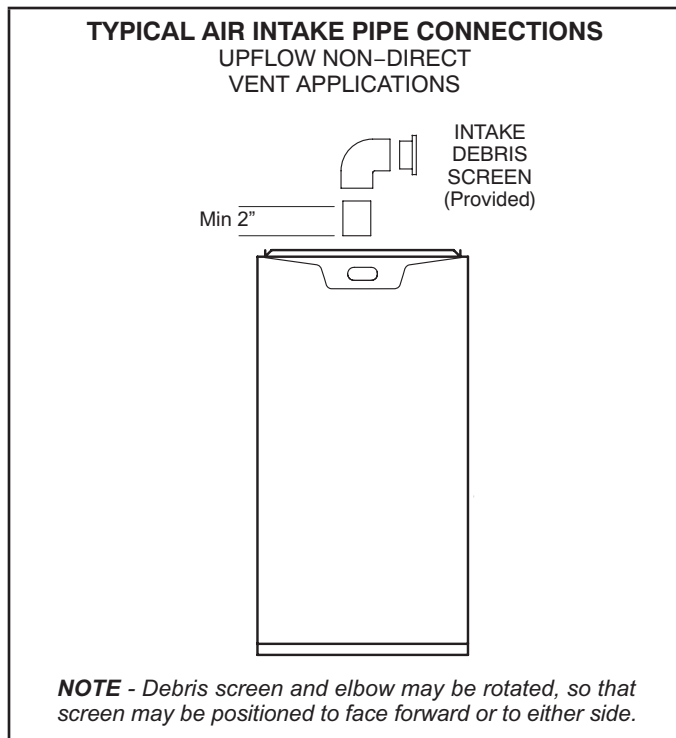
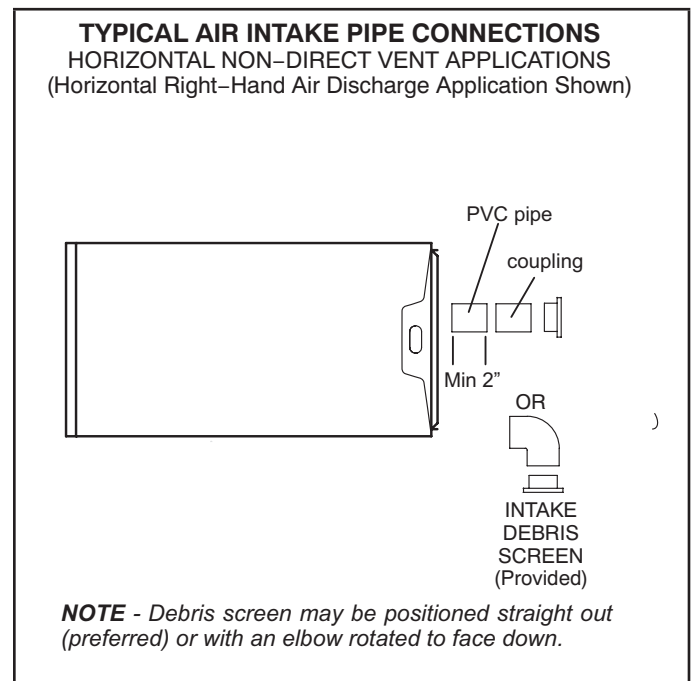

FIGURE 22
FIGURE 23
- 1 - Use field-provided materials and the factory-provided air intake screen to route the intake piping as shown in FIGURE 22 and FIGURE 23. Maintain a minimum clearance of 3" (76mm) around the air intake opening. The air intake opening (with the protective screen) should always be directed forward or to either side in the upflow position, and either straight out or downward in the horizontal position.